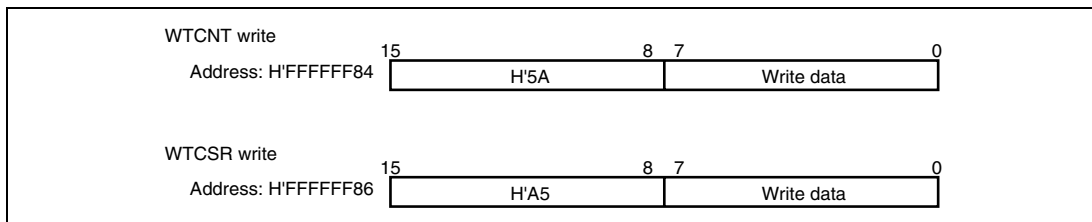

Figure 11.2 Writing to WTCNT and WTCSR
**Writing to WTCNT and WTCSR:** These registers must be written by a word transfer instruction. They cannot be written by a byte or longword transfer instruction. When writing to WTCNT, set the upper byte to H'5A and transfer the lower byte as the write data, as shown in figure 11.2. When writing to WTCSR, set the upper byte to H'A5 and transfer the lower byte as the write data. This transfer procedure writes the lower byte data to WTCNT or WTCSR.